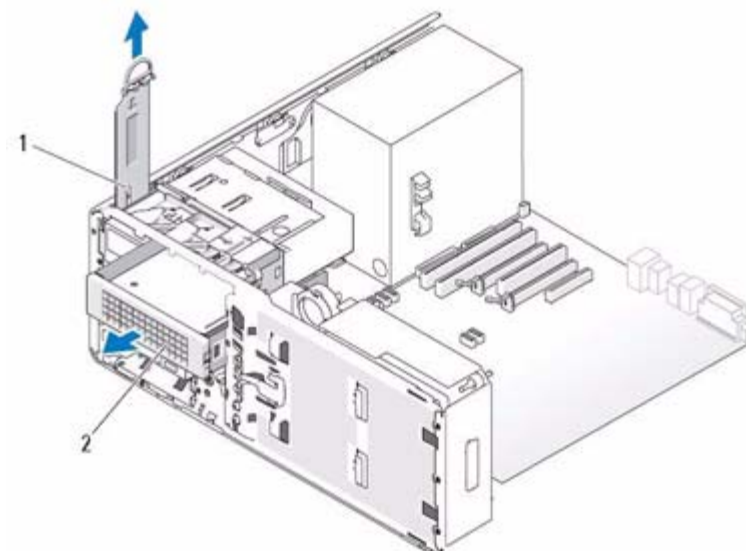

Figure 17:
14. Gently bend the Hard-drive bracket open and align the side holes in the new Hard Drive with the plastic pins on the bracket; release the tension upon the bracket so that the Hard Drive is securely fastened as shown in Figure 17 on page 22.